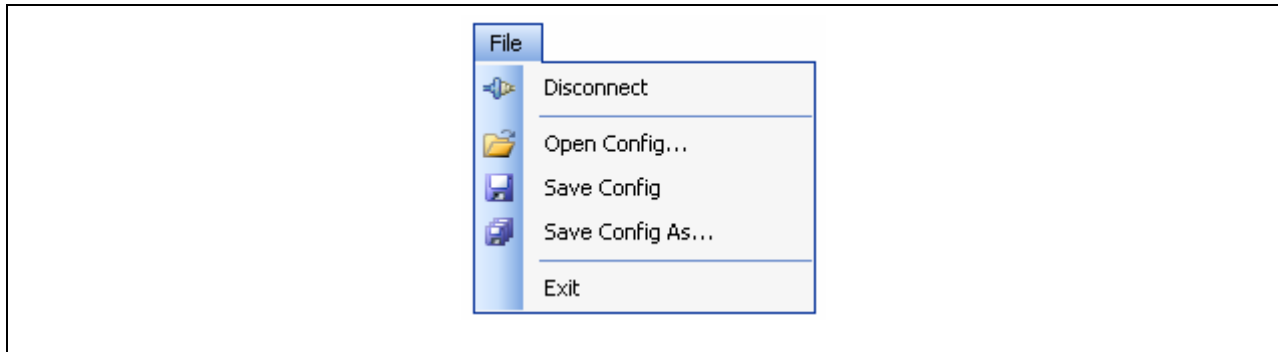

Figure 4: File Menu Options
3. The SX1233SKA should connect automatically to the User Interface Software. If not, click on the USB connect button, located in the top left hand corner of the window toolbar, as illustrated in Figure 4, below